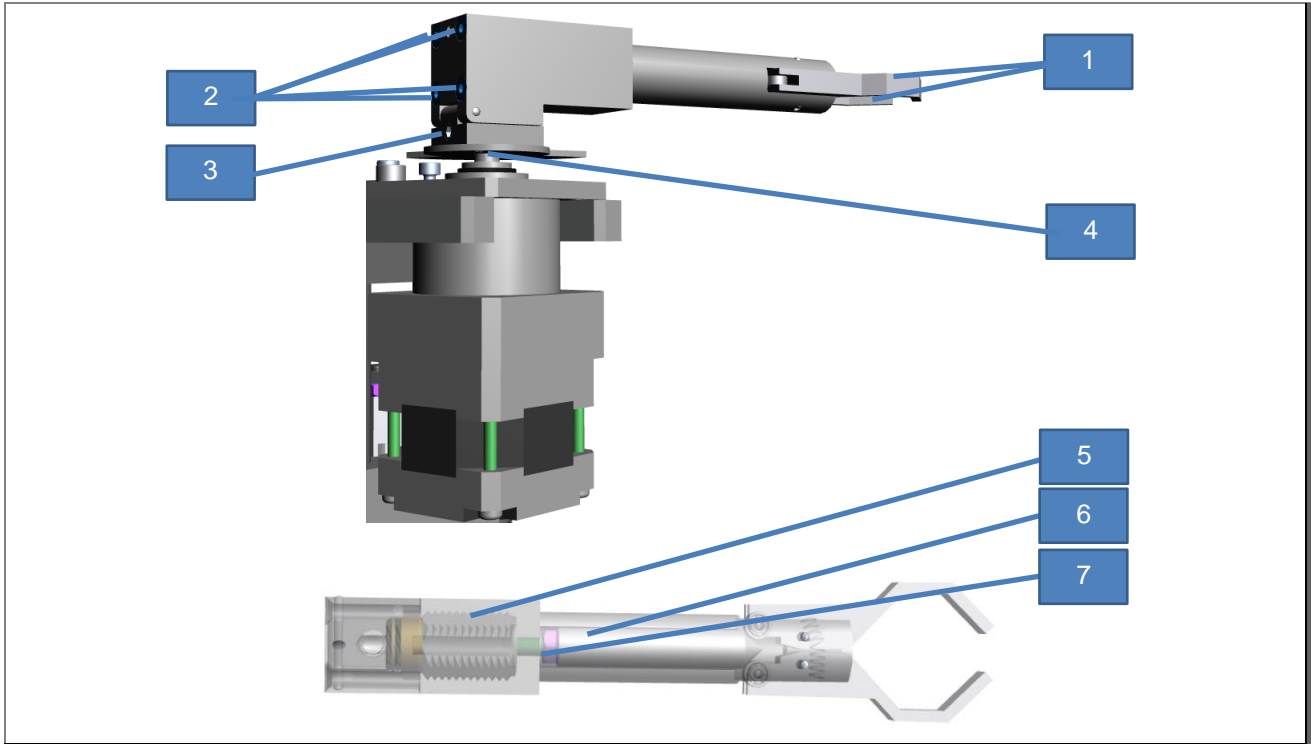

Fig. 15: Adjusting the gripper fingers
1. Release the screws (3) (see Fig. 15: Adjusting the gripper fingers).
2. Pull the gripper arm upwards to release it from the motor shaft (4) (see Fig. 15: Adjusting the gripper fingers).
3. Release the four screws (2) (see Fig. 15: Adjusting the gripper fingers).
4. Remove the ram (5) with the ram rod (6) (see Fig. 15: Adjusting the gripper fingers).
5. Release the hex nut (7) (see Fig. 15: Adjusting the gripper fingers).
6. Screw the ram rod (6) onto the ram (5) in a clockwise direction to increase the distance between the gripper fingers (1). Screw the ram rod (6) in an anticlockwise direction from the ram (5) to decrease the distance between the gripper fingers (1) (see Fig. 15: Adjusting the gripper fingers).
7. Tighten the hex nut (7) (see Fig. 15: Adjusting the gripper fingers).
8. Make sure that the ram rod (6) and the inside of the gripper arm are clean (see Fig. 15: Adjusting the gripper fingers).
9. Push the ram (5) with ram rod (6) into the gripper arm (see Fig. 15: Adjusting the gripper fingers).
10. Screw the four screws (2) tight (see Fig. 15: Adjusting the gripper fingers).
11. Push the gripper arm onto the motor shaft (4) (see Fig. 15: Adjusting the gripper fingers).
12. Tighten the screws (3) (see Fig. 15: Adjusting the gripper fingers).